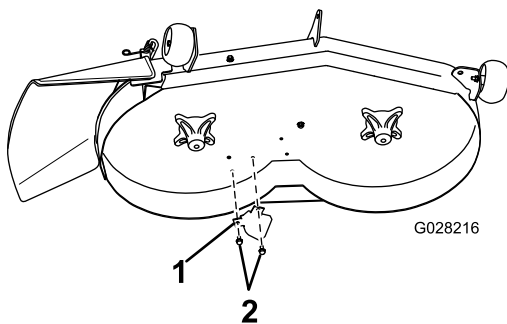

Figure 3
11. Install the kicker to the underside of the mower deck using 2 self-tapping screws (5/16 x 3/4 inch) at the location shown in Figure 3.